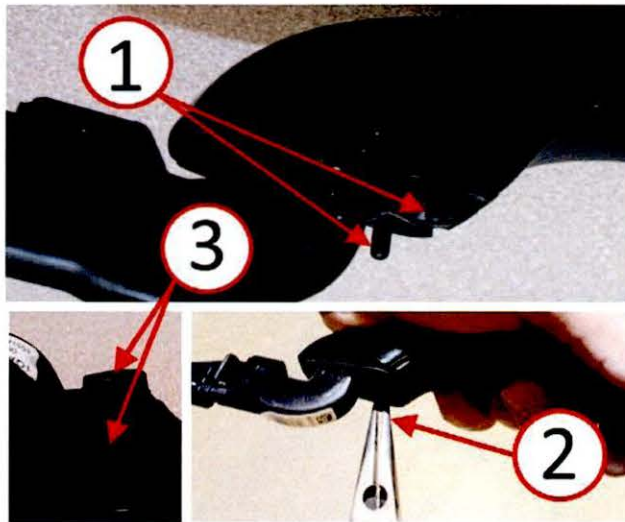

Fig. 2 Locating Pin Removal
2. Break off the two locating pins as shown (1, 2, 3) (Fig. 2).